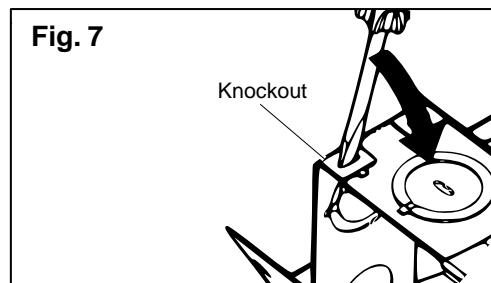
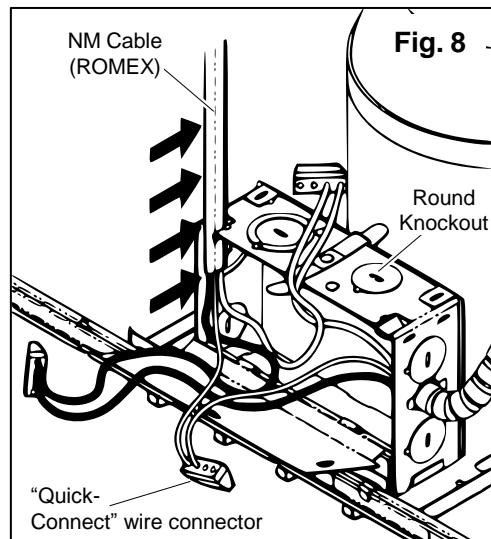

Fig. 7
Fig. 8
- A. FOR BX (ARMORED) CABLE - Break off one of the round knockouts (**FIG. 8**) using a screwdriver. Secure an appropriately sized BX cable connector to the knockout opening. Feed the BX cable through the connector, providing 6" of slack inside the junction box. Tighten the connector to secure the cable in place.
- B. FOR NM (ROMEX) CABLE – Break off one of the rectangular knockouts located on the top of the junction box using a screwdriver, creating a slot. (**FIG. 7**) Slide the NM cable into the slot, as shown, making sure there is 6" of slack inside the junction box. (**FIG. 8**)